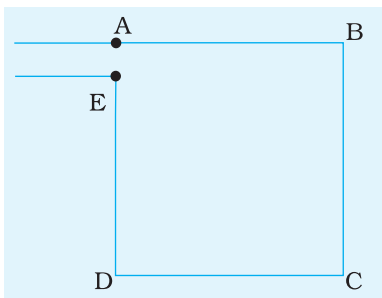

Fig. A 6.2
- A 100 cm wire of homogeneous material and uniform area of cross-section form a square as shown in Fig. A 6.2. How can this arrangement be used to select voltages $1/4$, $1/2$, $3/4$ of the voltage across AE.